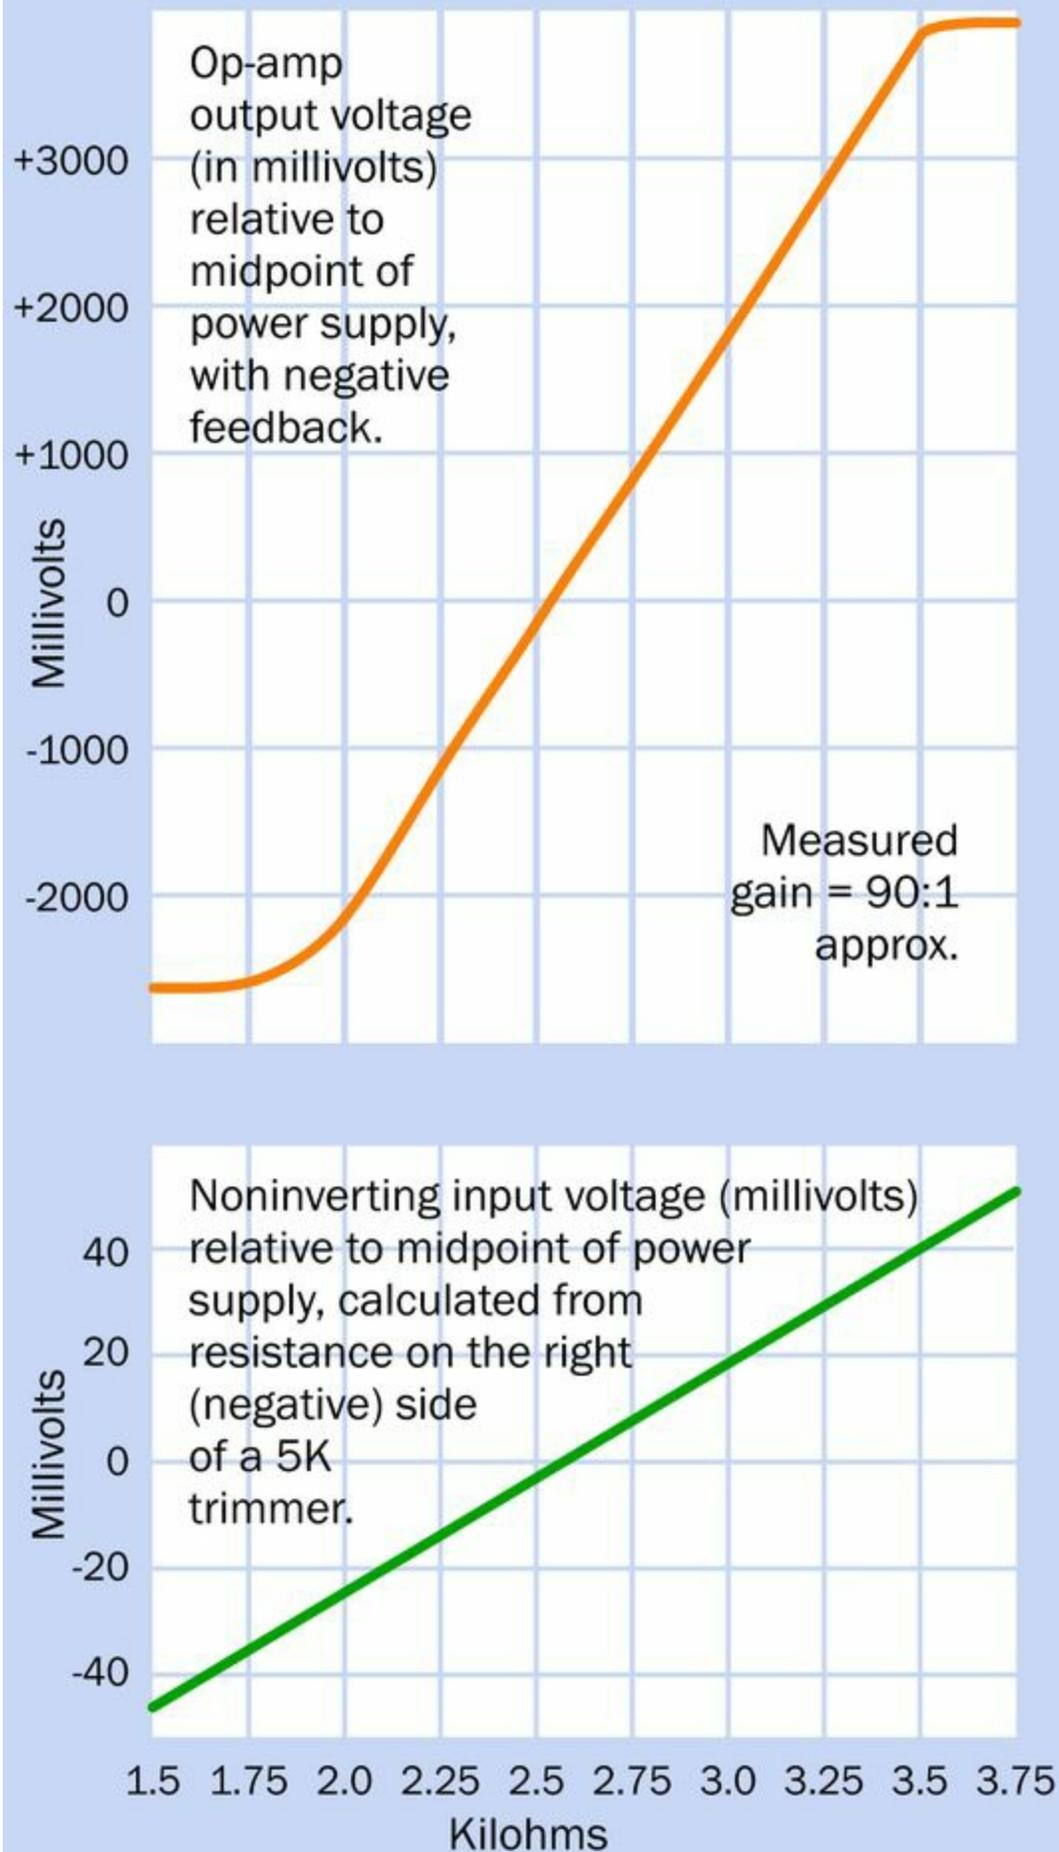
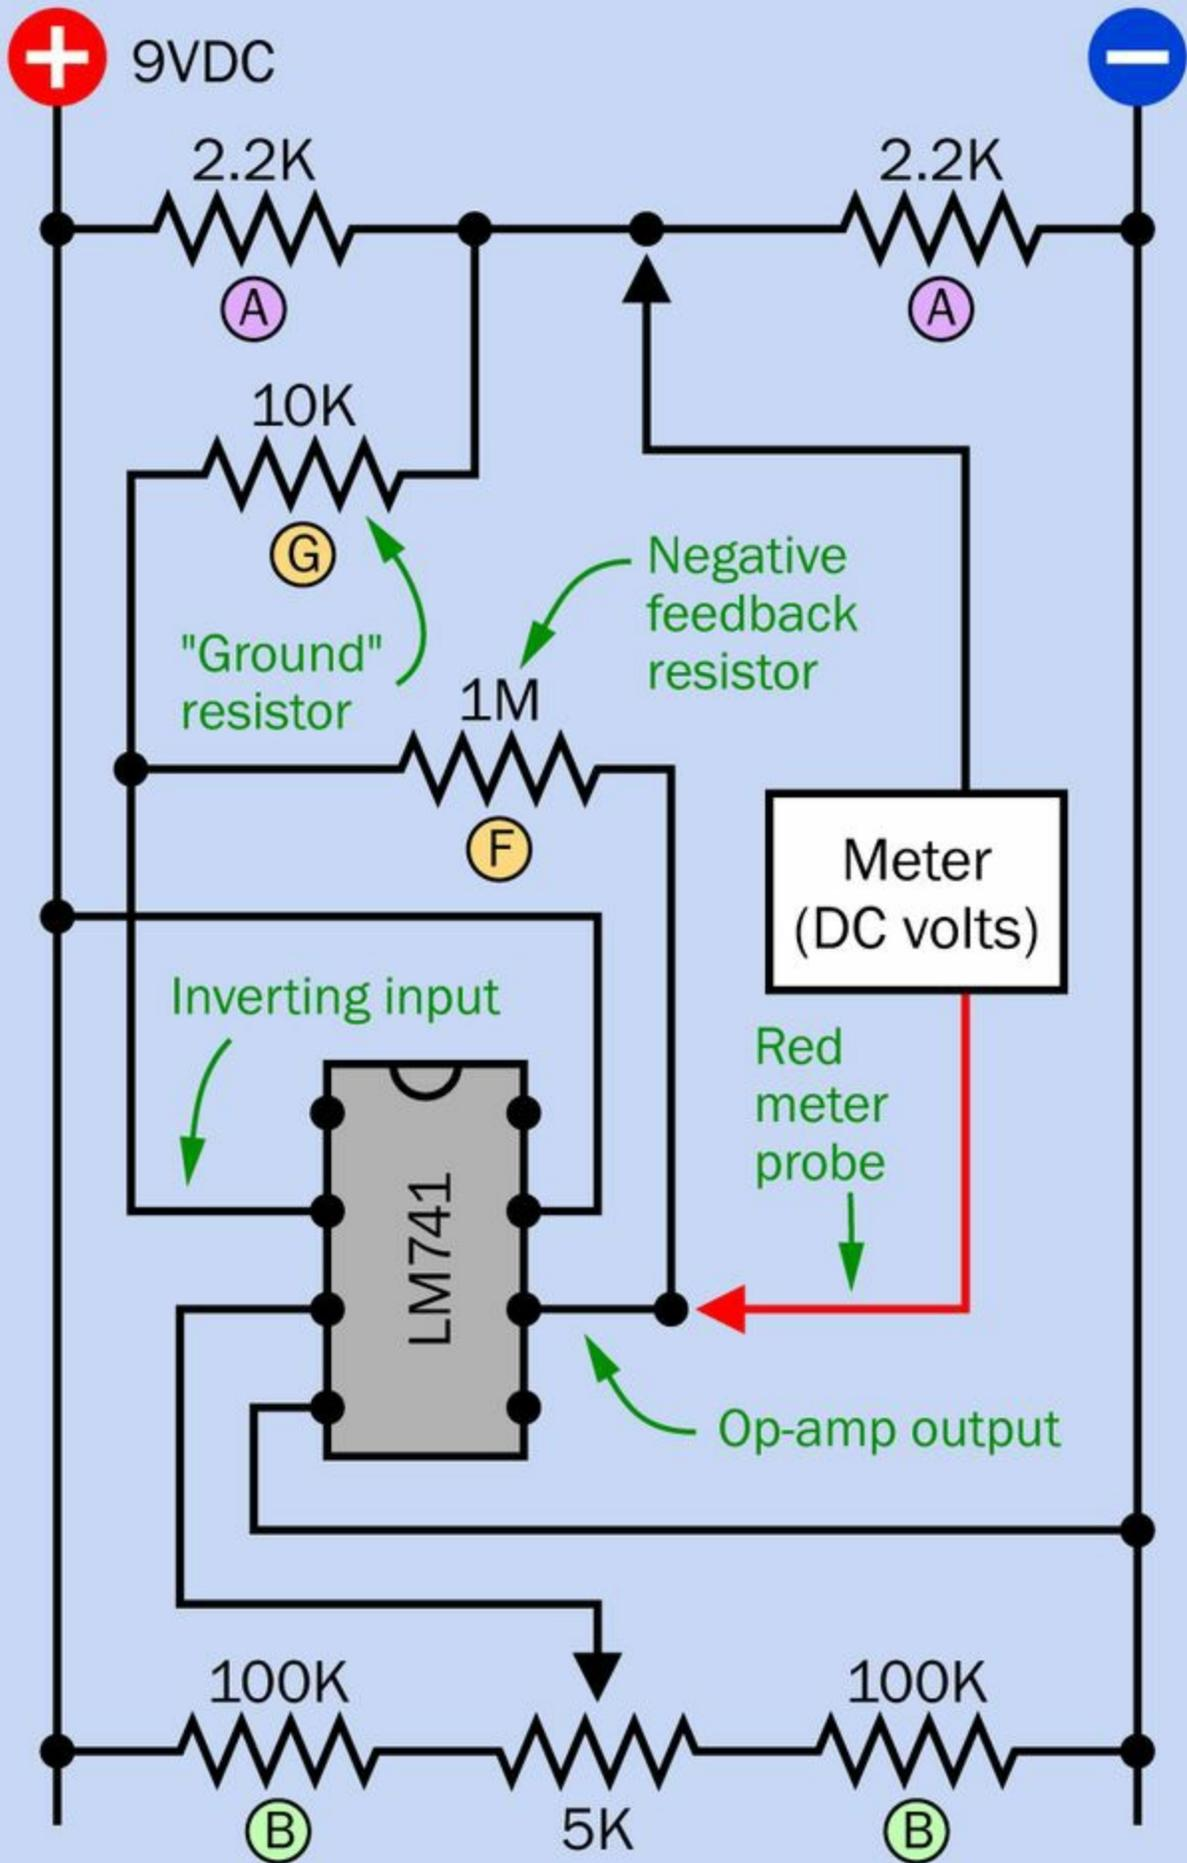
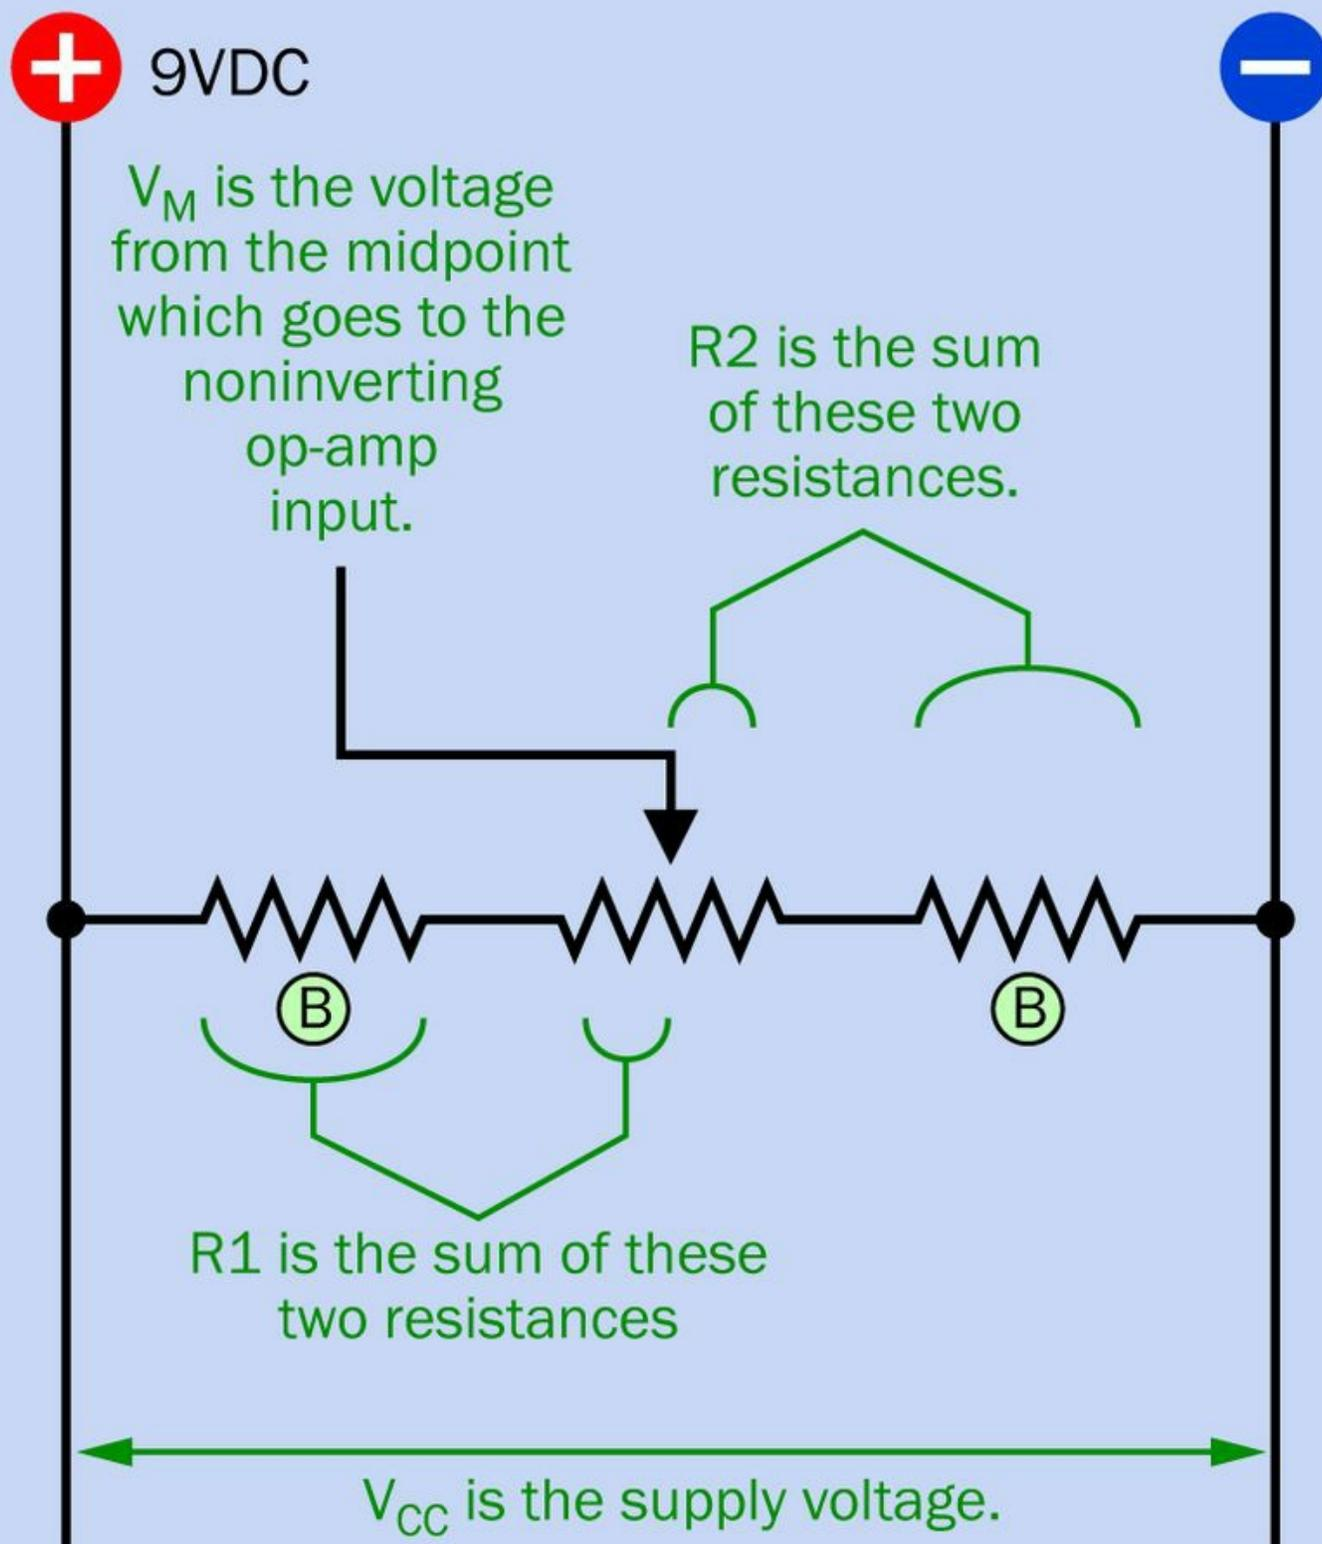

Figure 11-3. The central area of the green input curve is now reproduced correctly in the output curve, as a result of
Figure 11-4. The previous schematic has been modified to introduce negative feedback, by adding two new resistors.
Figure 11-9. The voltage to the noninverting input of the op-amp can be calculated if you know the values shown above.
Take a look at the graph in Figure 11-3, where a linear input causes an almost precisely linear output. This is exactly what we want and is surprisingly easy to achieve. To see it for yourself, make the following revisions to your circuit:
- Add two more resistors, identified as “F” and “G” in Figure 11-4. The photograph in Figure 11-5 shows how this can be breadboarded.
Take care to make the changes in the circuit. Now when you turn the trimmer, you should find that the meter shows the output voltage increasing very smoothly. It doesn't jump from one extreme to the other anymore. In Figure 11-3 there are some tiny deviations in the orange line (which may or may not
There is an additional factor, here, which is the grounding resistor, labelled G in Figure 11-4. This diverts some of the negative feedback to the midpoint of the “A” voltage divider. In other words:
Looking back at **Figure 11-3**, the orange line levels off at each end. This seems to suggest that its smooth linear performance breaks down, and indeed it does, but for a very good reason. The output voltage range of the op-amp cannot be greater than the voltage being delivered between the high end and the low end of the power supply. In fact the maximum and minimum output voltages will always be slightly less than the range between the supply voltages, because the op-amp has to siphon off a little power for itself to perform its magic. Consequently, if you increase the input beyond a certain point, you don't get a higher output voltage. When this happens with an audio signal, you hear distortion.
Figure 11-8 shows some input voltages and output voltages that I measured myself, for various settings of the trimmer potentiometer in the circuit in Figure 11-4. These were the numbers that I used to draw the graphs in Figure 11-3. Then I used the graphs to calculate the gain of my op-amp.
Pull the trimmer out of the circuit and measure the resistance between its wiper (the center terminal) and the terminal that connects with the righthand 100K "B" resistor, on the negative side. (See Figure 11-4.) Adjust the trimmer until you measure 1.5K (1,500 ohms).
Measure the voltage of the op-amp output by resetting your meter to DC volts and positioning the probes, as shown in Figure 11-4. Make sure you have the red probe and the black probe in the positions shown. Take care to observe if there is a minus sign before the digits.
You can calculate the input voltage from the resistances and the supply voltage. This would all seem very easy if I could demonstrate it for you with a meter on a lab bench. I can't, so the next-best way is to show you in a diagram, which I have drawn in Figure 11-9. This is a piece of the circuit from Figure 11-4 that contains the "B" voltage divider.